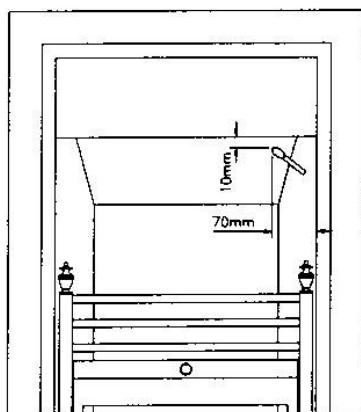

Fig. 17
3. After approximately 5 minutes place a smoke match 70mm from the right hand side, inside edge of the trim, 10mm below and 10mm within the opening of the fire as shown in Fig. 17, 17a, & 17b. Ensure that the smoke is drawn into the fire aperture. If spillage is detected, the cause must be discovered and the fault corrected. If the cause cannot be corrected disconnect the gas supply to the appliance and seek expert advice. **NOTE: DO NOT HOLD THE SMOKE MATCH IN ANY OTHER POSITION.**